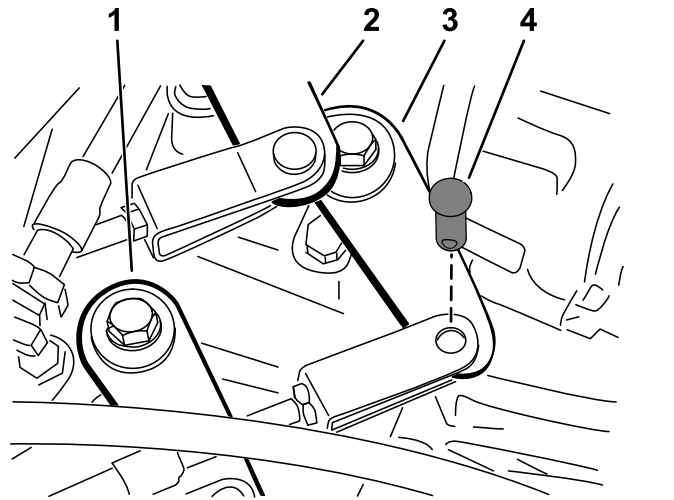

Figure 42
2. Remove the clevis pins securing the shift cables to the transaxle-shift arms (Figure 42).
1. Remove the clevis pin securing the high-low cable to the transaxle (Figure 42).